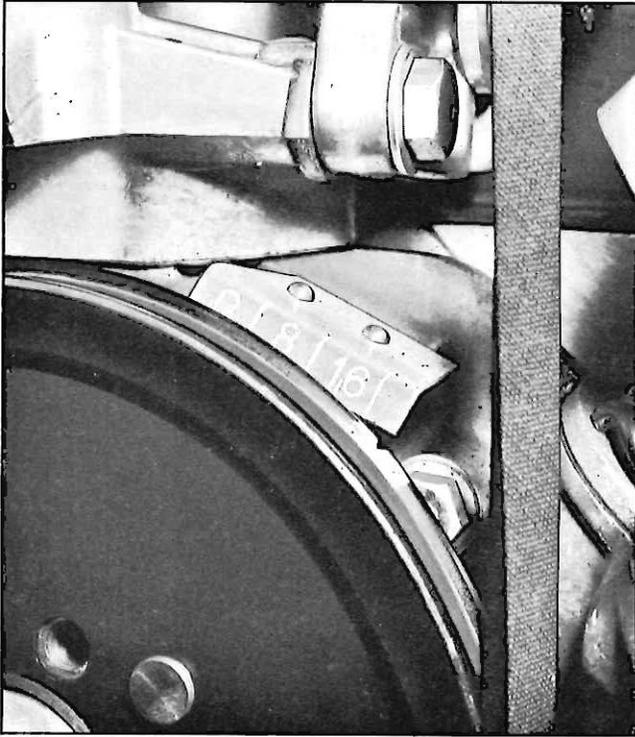

Fig. 10 Ignition Timing Setting
3. Aim timing light at timing tab (fig. 10) above crankshaft pulley and adjust timing to 24° advance by turning distributor the same manner as on regular Corvair engine.